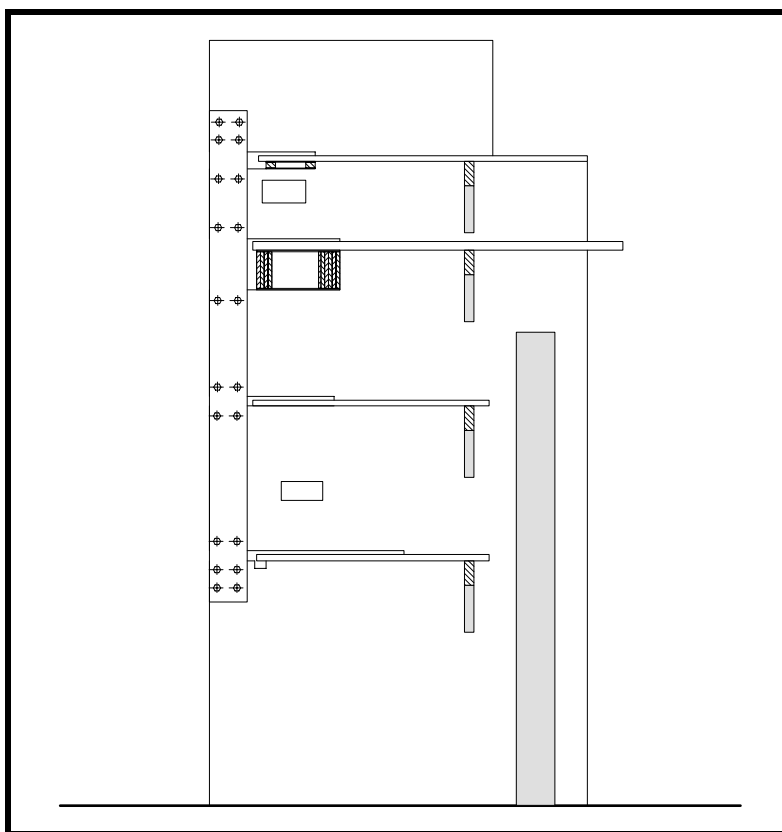

Figure 2
The centerboard has two braces which are made of the same 1" or 3/4" plywood. Cut two pieces of plywood to 100mm by 1300mm and install with bolts as shown on Figure 2. The centerboard will be weakened when the slots are cut, and by installing the braces first the bolts keep the centerboard from distorting.
Figure 2 shows the fuselage centerboard in position. This jig supports and locates fuselage Sta. 3, 4, 5 and 6 along with the main wing spar and the front wing spar. The shop floor is shown to the right side of the drawing. The jig is positioned so that W.L. 0 is exactly vertical. You should use a plumb bob to check this; in fact, we suggest that you have a plumb bob on each of the parts of the fuselage and wing jig.
The centerboard should be supported in some manner. Some builders support it with diagonal braces from the floor, as shown in Figure 2. Others clamp, screw or nail the top of the board to the ceiling of the shop.
Remember that the wing templates will be aligned to the chord lines already drawn on the main wing spar. It will not be possible to remove or install frames No. 5 and 6 once the jig is set up. Due to the weight of the main spar, the centerboard will become quite weak if the brace shown in Figure 2 is removed. As these frames extend out to wing Sta. 1, they will be inside the open area of the template. This provides you with the opportunity to install support braces on the inboard face of the Sta. 1 template to support these frames. It also means that the frames must be installed in the jig early.
- ☐ Install the braces (see Figure 2) on the fuselage centerboard.